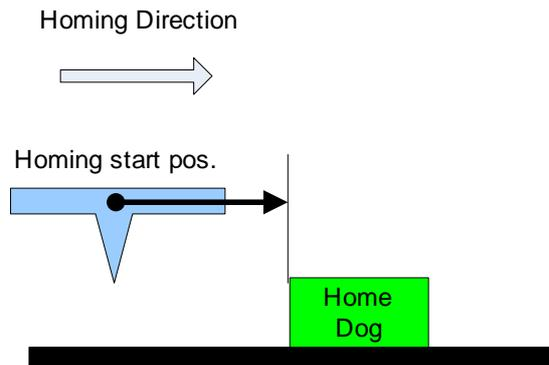

Fig. 3-3
- 1Dir: The platform moves along the homing direction to search the home dog sensor. If the platform triggers the limit sensor before the home dog is searched, the system stops homing and gives the alarm. (Fig. 3-3)